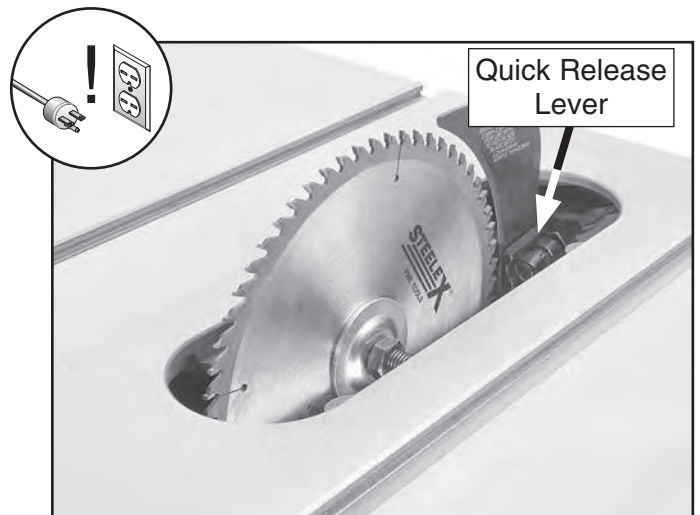

Figure 114. Quick release lever.
- Loosen the quick release lever shown in **Figure 114**.